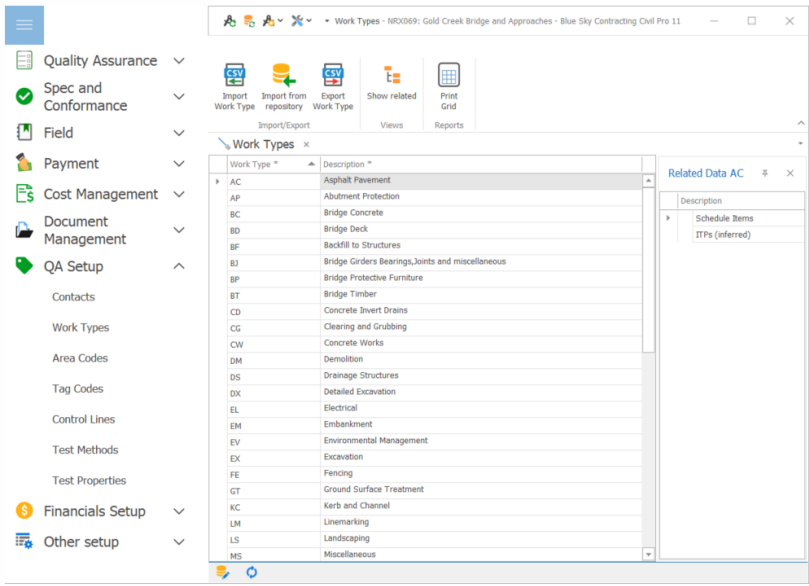

Figure 15 The Work Type Register
7. The imported *Work Types* will be shown in the grid and should look like Figure 15.